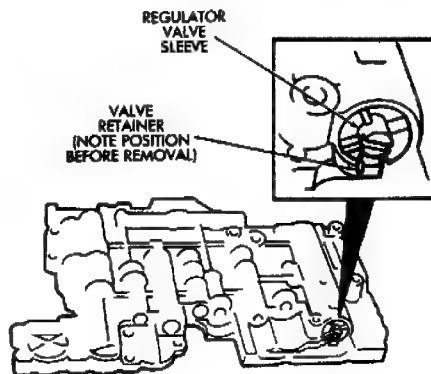

Fig. 6 Regulator Valve Retainer Position
(7) Install valve spring and regulator valve sleeve and plunger.
(8) Press regulator valve sleeve into bore and install retainer (Fig. 6 and 7). Be sure retainer is positioned in sleeve lugs as shown.